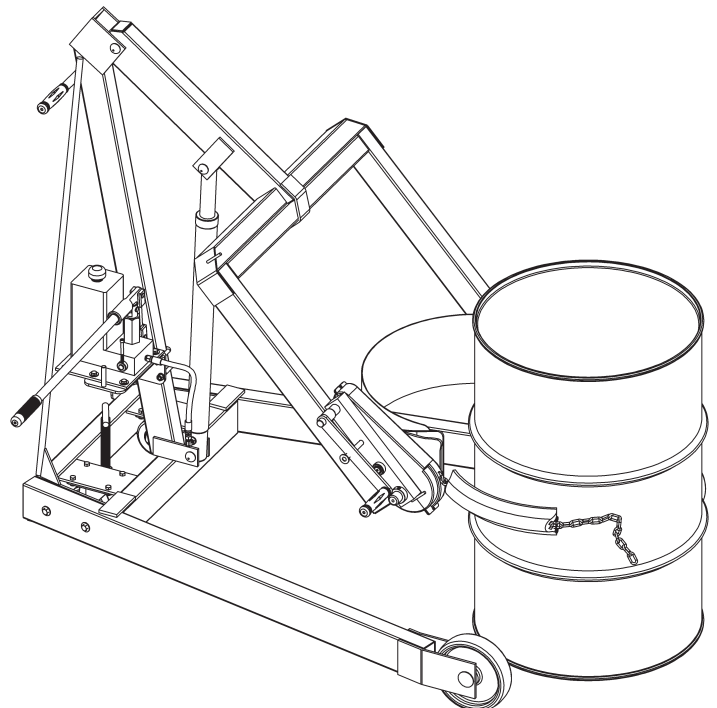

Figure 3.1
The screw-down floor lock is located on the base of the tower (figure 3.1). Turning the floor lock clockwise until it locks in the down position activates the floor lock. When the floor lock is activated it prevents unwanted free wheeling of the unit. Floor conditions determine the effectiveness of the floor lock. The operator should verify its holding action before depending on it to hold.
2. Using the "LIFT" control as described in "Machine Description - Controls", position the drum holder assembly with the back band at the middle of the drum (Figure 3.1). With the ratchet plate swung open and the cinch chain hanging from the chain hook, push the unit until the back band rests firmly against the drum. Some adjustment to the tilt angle of the saddle may be necessary to ensure band fits flush on the drum.